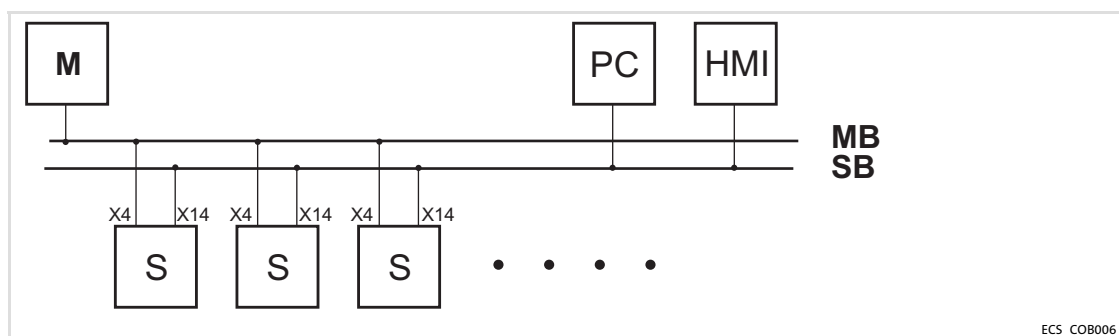

Fig.5-14 MotionBus (CAN) with higher-level control
- In Fig.5-14 a higher-level control takes over the function of the master, e. g. ETC.